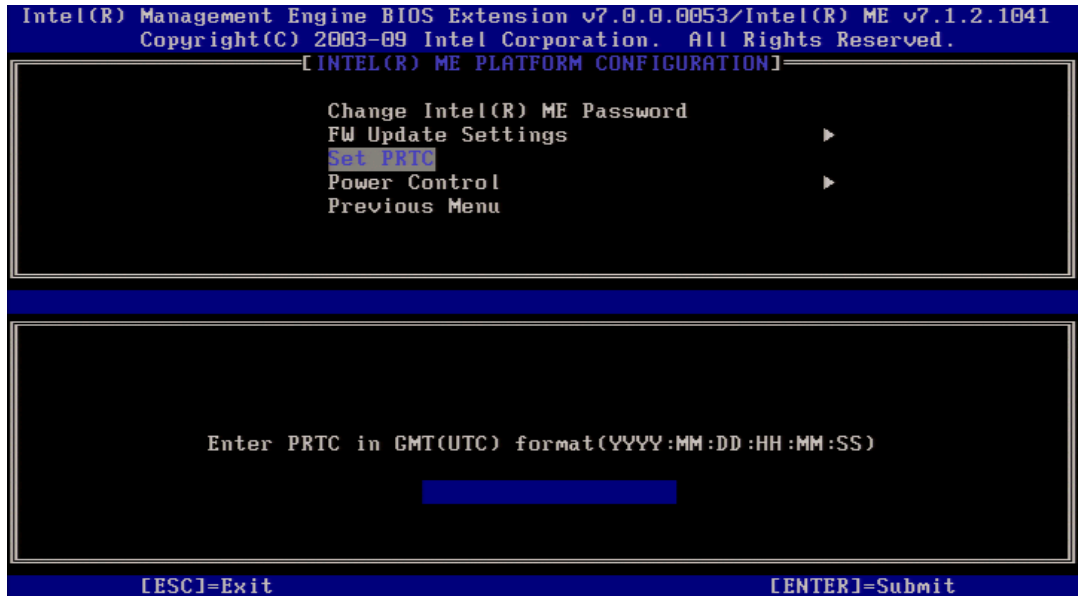

Figure 4. Intel ME FW Update Settings Screen
6. Select **Set PRTC** (Figure 4). This option sets the Protected Real Time Clock (PRTC). Setting the PRTC value is used for virtually maintaining PRTC during the power-off (G3) state. PRTC has a valid date range of 1/1/2004 to 1/4/2021.